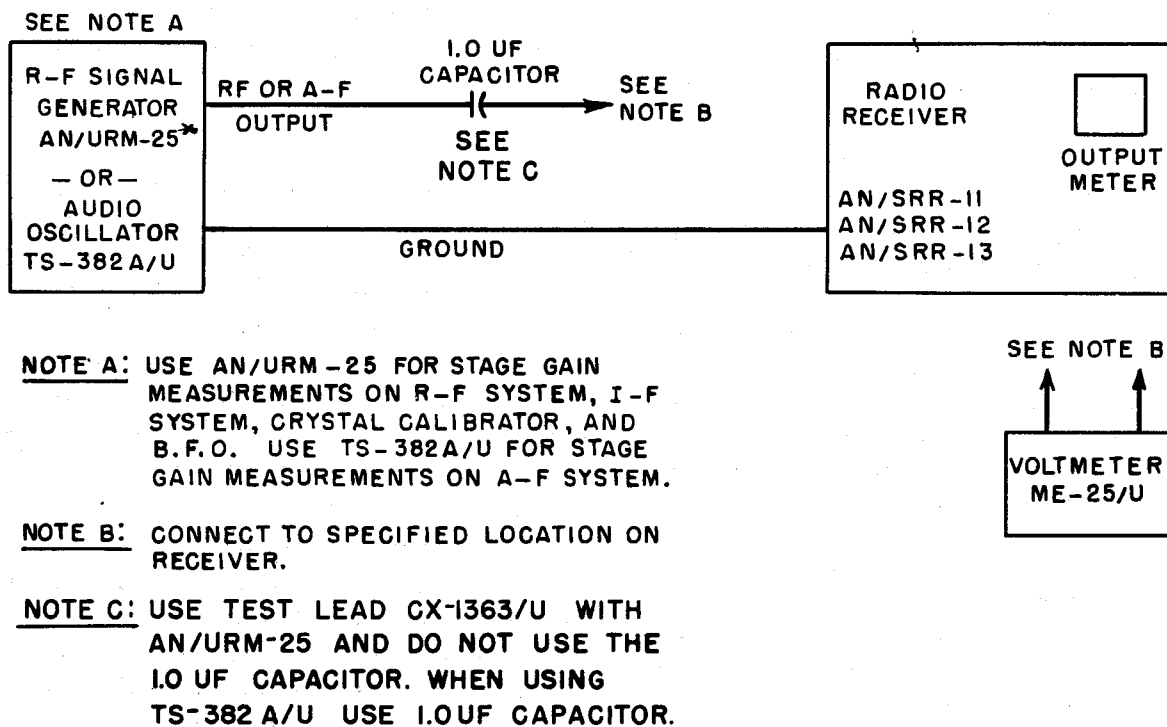

Figure 7-2. Test Set-Up for Stage Gain Measurements
*a.* DIAL LIGHT AND FUSES.—Turn the POWER switch to ON and check the dial light. If the dial light is glowing, this indicates that the power input and power transformer, T1601, primary circuits are operating. In this case follow with step *b* of this procedure. If the dial light is not glowing, switch the LAMPS control to the SPARE position; if the dial light still does not glow and the receiver is dead, then replace fuses F1601 and F1602 located on the bottom of the power supply assembly, as shown in figure 7-2. If this does not correct the trouble, then see paragraph 3 (*a*) of this section.
Stage gain measurements are listed in Table 7-3. The measurements should be taken as called for in paragraph 2 or 3 of this section. If a measured stage gain does not agree to within approximately 30% of the value given in Table 7-3, then replace the stage. If this fails to correct the trouble, then take voltage and resistance measurements of the stage and associated components to locate the trouble. To measure stage gain, refer to the appropriate portion of Table 7-3 and to figure 7-2, which shows the test set-up, and proceed as follows:
a. Refer to figure 7-2 and connect a signal generator or audio oscillator as called for in Table 7-3 to the point designated as input location on that Table (location of points for test equipment connection on the receiver is shown in figure 7-1, sheets 1 and 2).